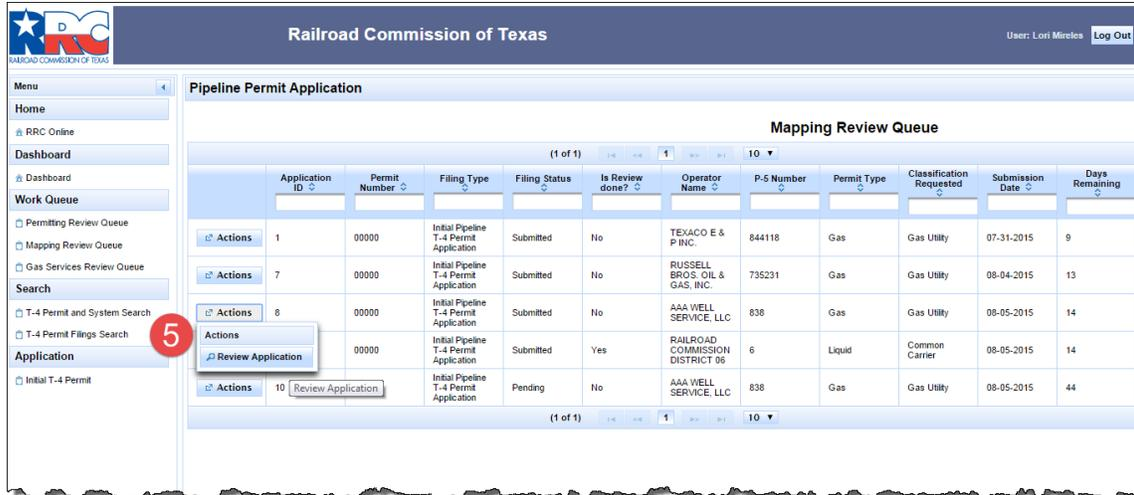

Figure 107: Open the Application in POPS
5. Go to the submission entry in POPS; click **Actions > Review Application** for Application ID 8, as depicted in Figure 107.